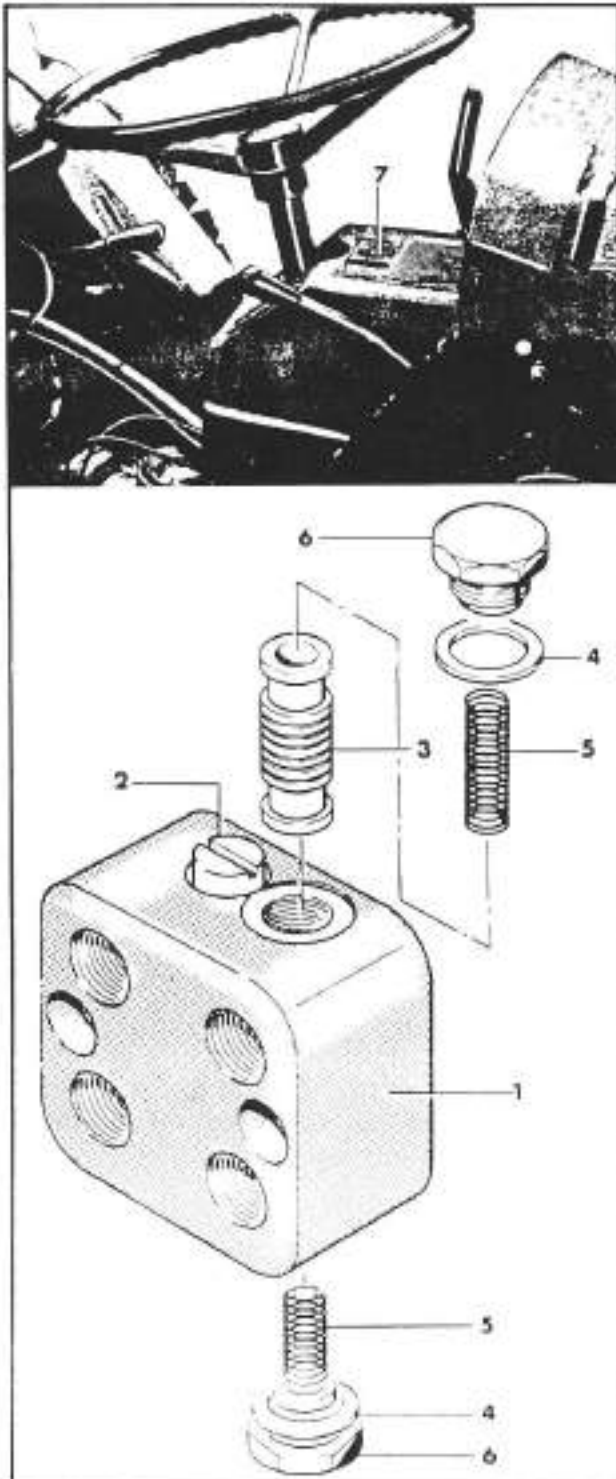

Fig. 3-71. Power steering valve
read between 100 and 105 Atm, tighten or loosen the regulating screw (2; fig. 3-71) on the hydraulic valve (1; fig. 3-71) for the hydraulic steering.
For access to the regulating screw, remove the rubber insert (7; fig. 3-71) located on the instrument panel.
- c. If the operating pressure value is correct, but the steering movement is still irregular after having ascertained that the steering gear jack functions perfectly, replace the springs (5; fig. 3-71) of the hydraulic valve (1; fig. 3-71).